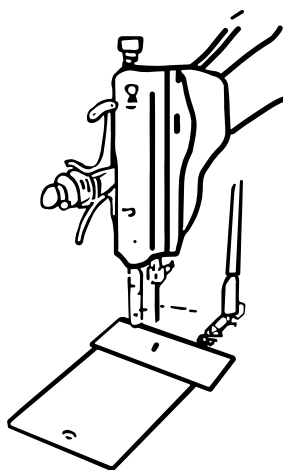

FIG. 1
1. Kindly refer to FIG. 1. Take away the presser foot and the needle clamp screw from the sewing machine. Instead of the needle clamp screw, use the SPECIAL NEEDLE SETTING SCREW (supplied with the buttonholer) to set the needle.